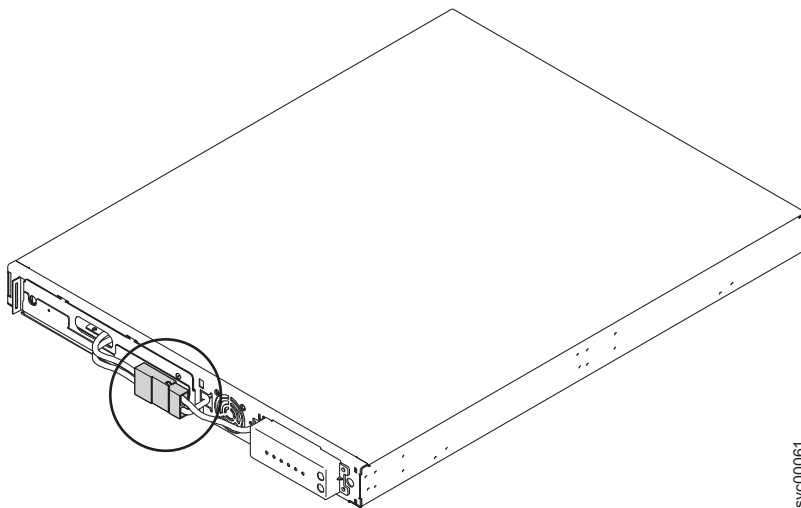

Figure 319. The 2145 UPS-1U with internal battery connectors in place
7. Connect the internal battery connector (circled in Figure 319).